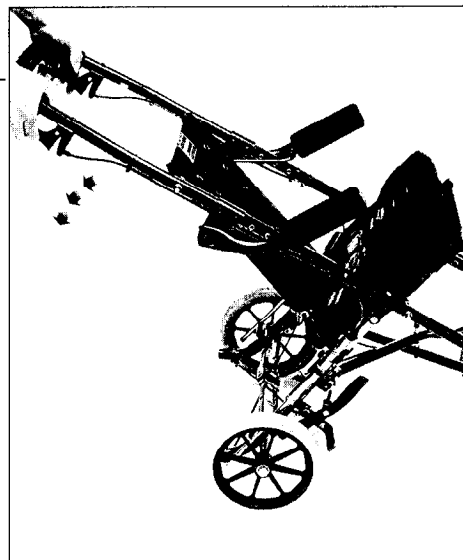

Fig.82
1. Bring the chair to the lowest, most tilted position by squeezing both triggers on the handles and tilting the seat down. **Fig.82**